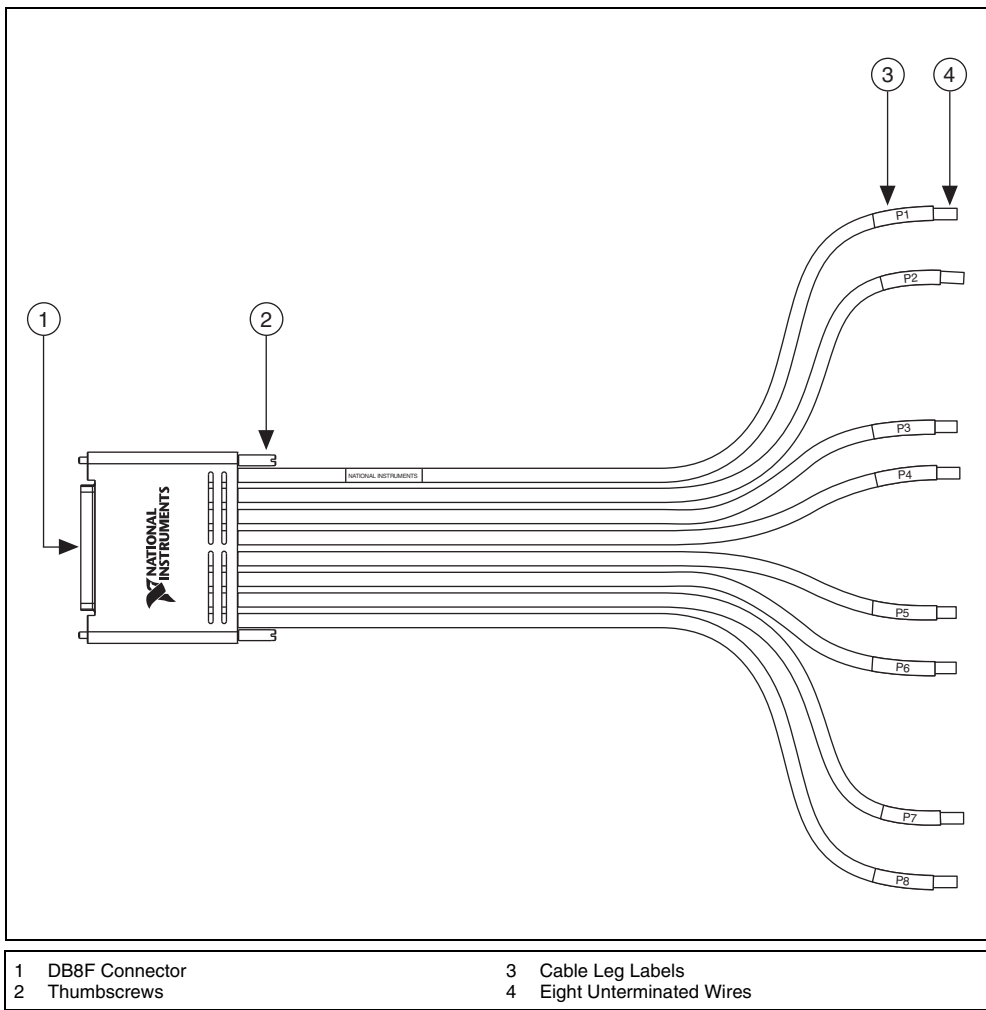

Figure 3. DB8F-BARE WIRE-40A Cable
- Connect the unterminated wires to your application. Refer to Figure 3.